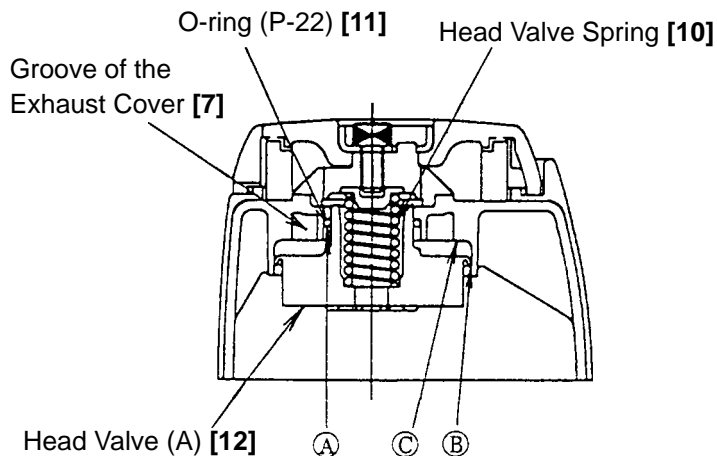

Fig. 15
- Push Head Valve (A) [12] in the Exhaust Cover [7] together with O-ring (P-22) [11] for easier mounting. Before mounting, apply grease to the sliding portion (A) and the lip portions (B) and (C) of Head Valve (A) [12] and seal about 0.5 g of grease into the groove of the Exhaust Cover [7] (Fig. 15).
- Align the hole of Gasket (A) [8] with the air hole of the Body [23].